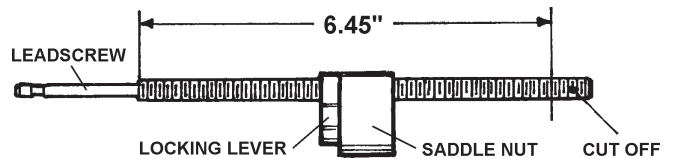

FIGURE 8—The leadscrew is shortened so that the thread length is 6.45". (Shown without handwheel.)
3. Your existing leadscrew must be shortened so that it will clear the top of the rotary column attachment. (See Figure 8.) Leave your existing saddle nut in place on the leadscrew. (If upgrading to a new saddle nut and locking lever, install them at this time.) By leaving